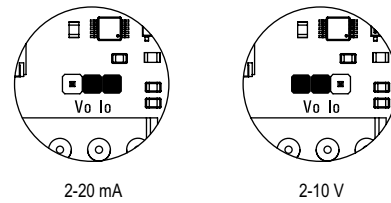

Figure 3: Output jumper positions
Prior to wiring the 4-20 mA or 2-10 V output, verify that the IOUT/VOUT jumper, located just behind the four terminal block P1, is in the correct position. For 4-20 mA output, the two right most pins are shorted. For 2-10 V output the two left most pins are shorted. See Figure 3 for examples.
5. Securely attach the A-507 to the CMS300 as shown in Figure 3.